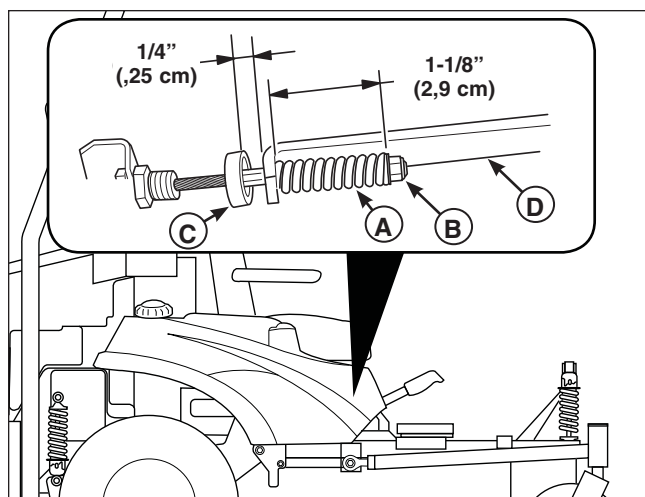

Figure 43. Parking Brake Adjustment
2. This unit has two brake springs (A, Figure 43). The brake springs are located under the front of the fuel tanks. Locate the brake springs. See Figure 43.